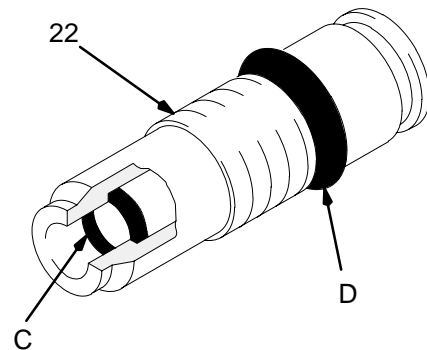

Fig. 15
2. Remove the resistor stud (22) as instructed on page 30.
3. Check the resistance between the black resistor stud contact ring (D) and the needle contact ring (C). See Fig. 15. You may have to press down on the contact ring (D) in several places to get a good reading.
4. The resistance should be 21 to 29 megohms. If the resistance is correct, make sure the metal contact in the gun barrel and the needle contact ring (C) are clean. If the resistance is outside the specified range, the resistor is defective and the resistor stud (22) must be replaced. See page 30 to replace the resistor stud.
The resistor stud contact ring (D) is a conductive contact ring, **not** a sealing o-ring. See Fig. 15. To reduce the risk of sparking, which could cause a sparking or electric shock, **do not** remove the resistor stud contact ring (D) or operate the gun without the contact ring in place. Do not replace the resistor stud (22) with anything but a genuine Graco part.
KEY-Fig. 15